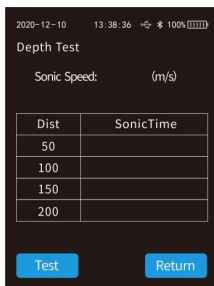
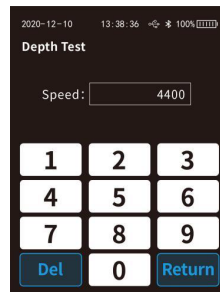

Fig 3-4
Fig 3-5
First, in the seam depth test interface, click near the "Speed" area to enter the sonic speed test interface, as shown in Fig 3-4.
Note: During the test, click anywhere in the box area in Fig 3-4 to retest the last interval.
(2) Sonic speed setting
Enter the sonic speed test interface according to the method in (1) above, as shown in Fig. 3-4, click near the " Sonic Speed" area to enter the sound speed setting interface, as shown in Fig. 3-5, click the soft keyboard and enter the corresponding number. So far, the sonic speed setting is completed.